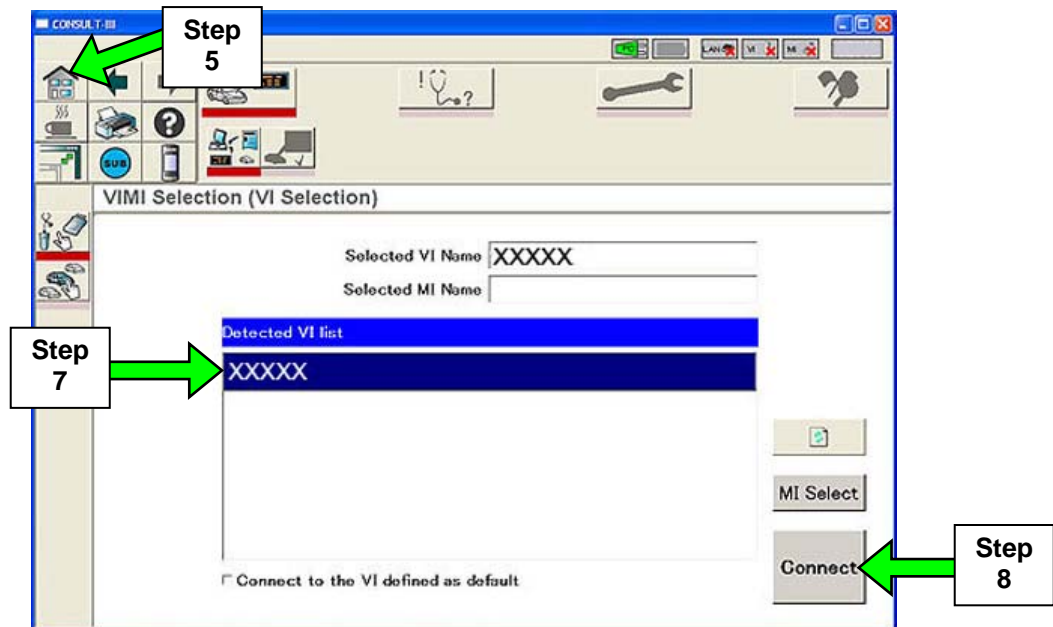

Figure 1
1. Connect the Vehicle Interface (VI) to the vehicle
7. Select the detected VI from the list. (See Figure 1.)